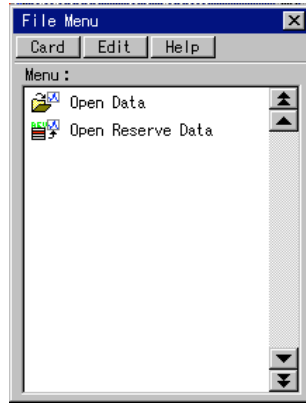

Figure 5.22 File menu window
- 4) When <Constant> is selected, enter a numeric value and press the <OK> button. When <File> is selected, the window shown in Fig. 5.22 is displayed. When using data saved on the memory card, press [Open Data] and select the data file. When using data saved in the reserve area, press [Open Reserve Data] and select the data file. The calculation result is displayed.